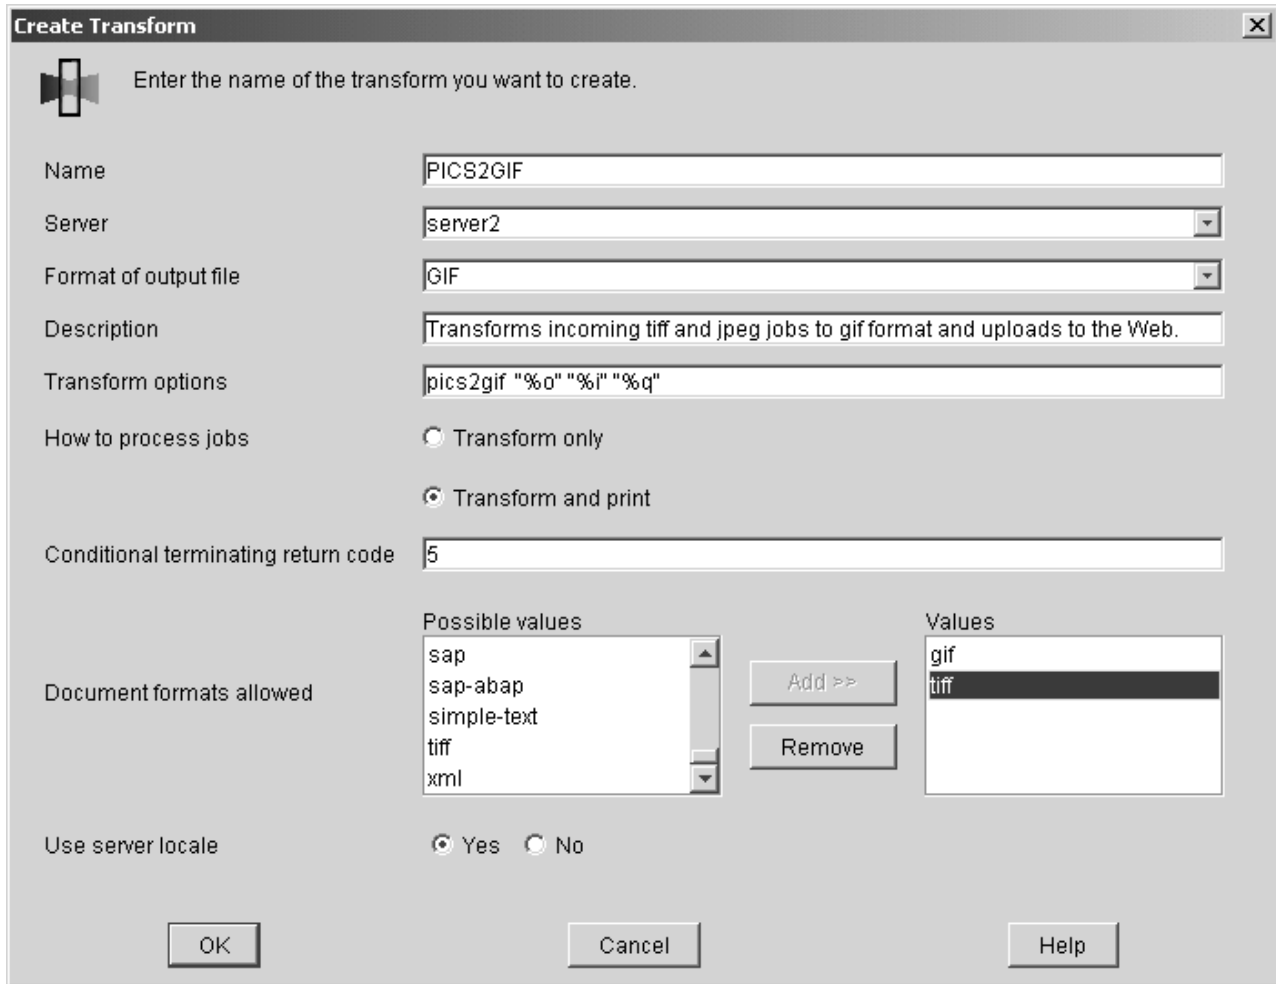

Figure 55. Create Transform dialog: Define a conditionally terminating transform
3. In the **Create Transform** dialog, fill in the fields as shown in Figure 55. These values create a transform that transforms both JPEG and TIFF input data into GIF output and then provides a return code of 5 if the transform has completed successfully without returning to InfoPrint Manager for printing.